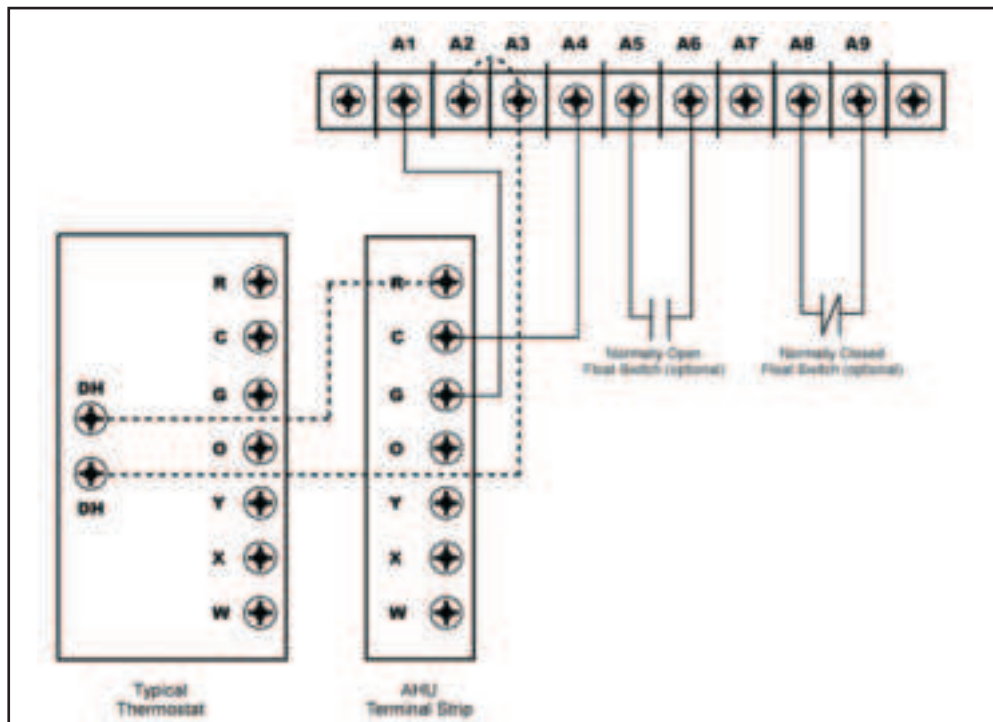

FIGURE 3: WIRING DIAGRAM
1. Connect controls per diagram on previous page (Figure 3).
5. If desired, the dehumidifier can turn the HVAC fan on. To do so, install a jumper on the dehumidifier terminal strip between #A3 and #A2. Connect terminal #A1 back to the HVAC controller as shown on previous page (Figure 3). The fan will come on whenever the dehumidifier is running.